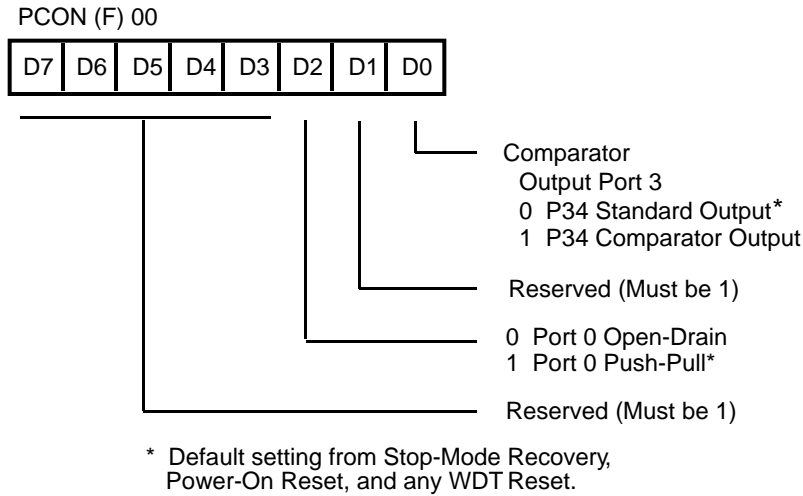

Figure 13. Port Configuration Register (PCON) (Write-Only)
**Port Configuration Register (PCON).** The PCON configures the ports individually for comparator output on Port 3. The PCON Register is located in the Expanded Register File at Bank F, location 00 (Figure 13).